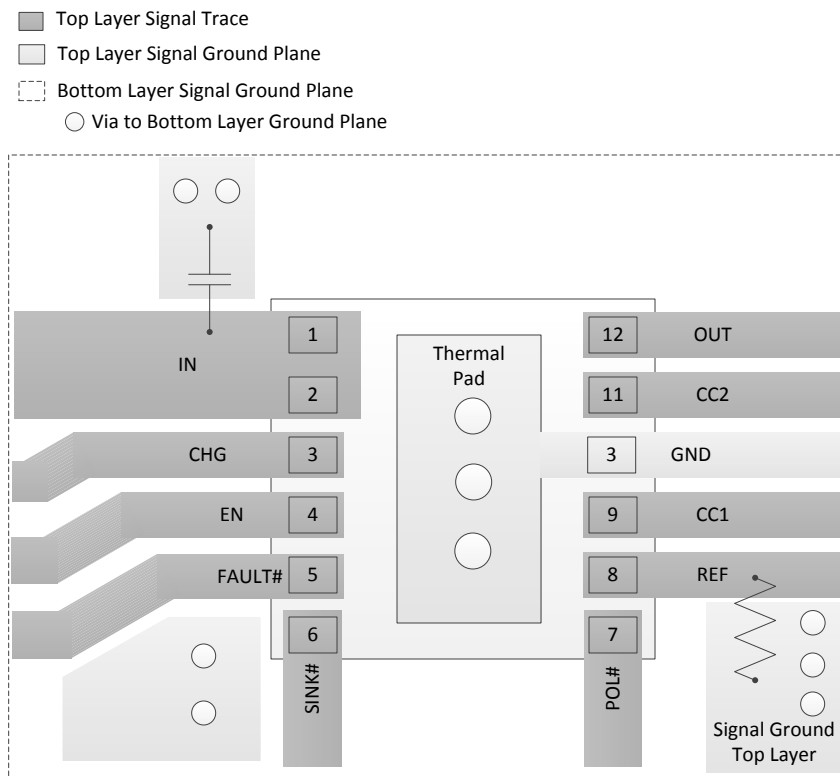

Figure 22. Layout Example
- Care must be taken to minimize the loop area formed by the bypass-capacitor connection, the IN pin, and the GND pin of the IC. See Figure 22 for a PCB layout example.